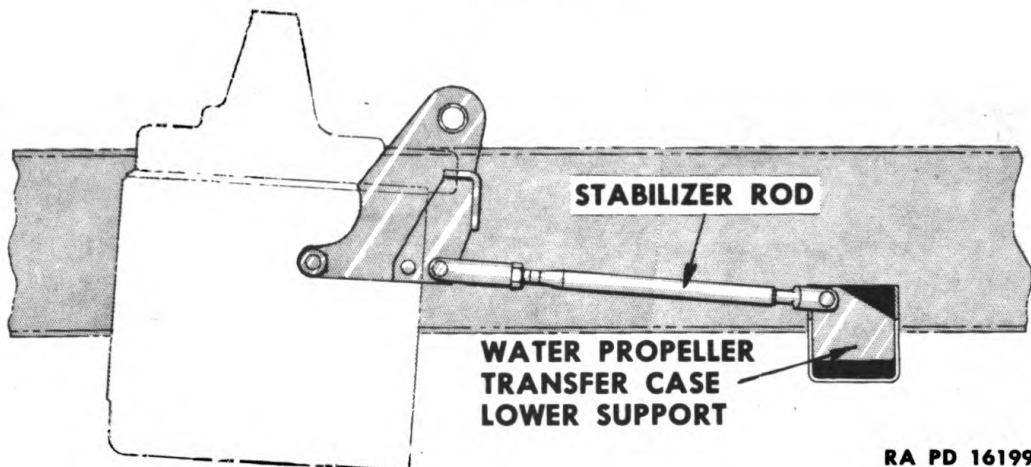

Fig. 181—Power Plant Stabilizer Rod
b. Complete power plant assembly (engine, clutch, and transmission) is held rigidly in place by means of a stabilizing rod as illustrated in Fig. 181.
b. Adjustment Procedure (Fig. 181)
(1) Install stabilizer rod
Place stabilizer rod in position as shown in Fig. 181 and insert clevis pin through fixed yoke and bracket on water propeller transfer case lower support.